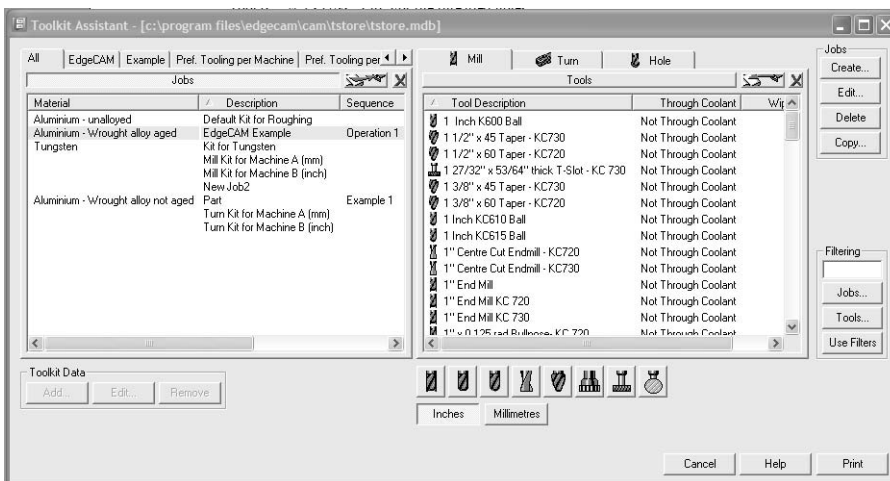

Figure 20 Toolkit Assistant
2. **Press the Create button in the Jobs section of the Toolkit Assistant dialog (upper right hand corner Figure 20).**
3. When the information has been completed, **Press OK button**, and the new job will be listed under the Jobs section of the Toolkit Assistant dialog (Figure 20).